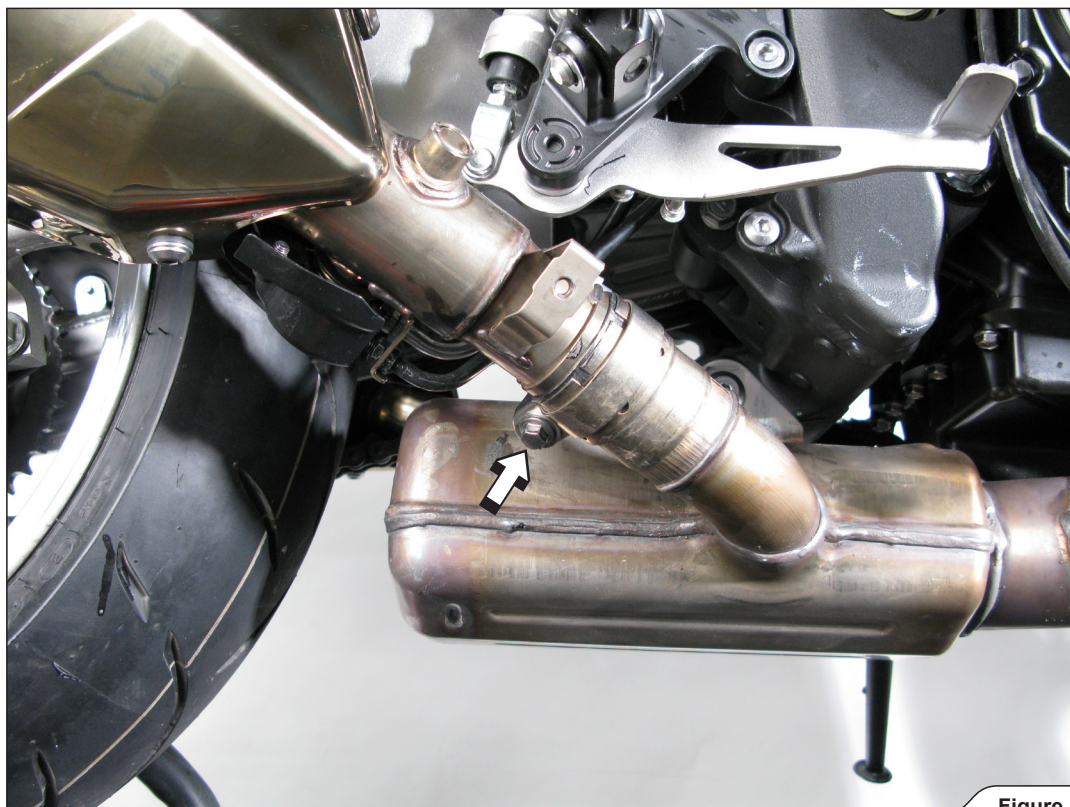

Figure 5
5. Untighten the marked metal clamp bolt and unscrew the muffler bracket bolt on both sides. Remove the mufflers off the motorcycle (**Figure 5, 6**).